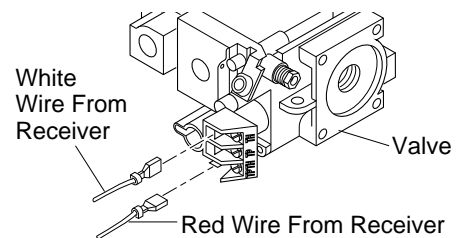

Figure 18 - Connecting Wires
5. Connect wires as shown in Figure 18.